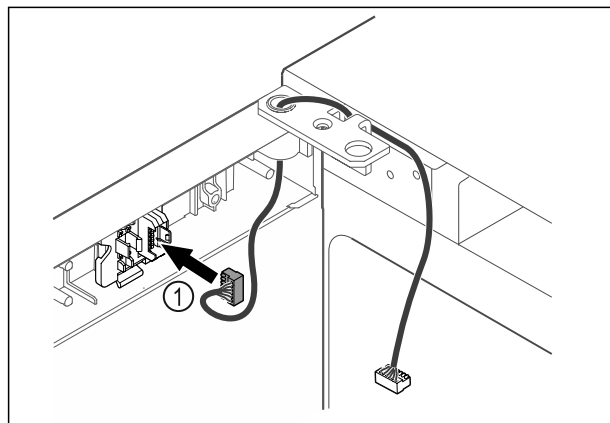

Fig. 32
- Put the plug Fig. 32 (1) in the plug holder.